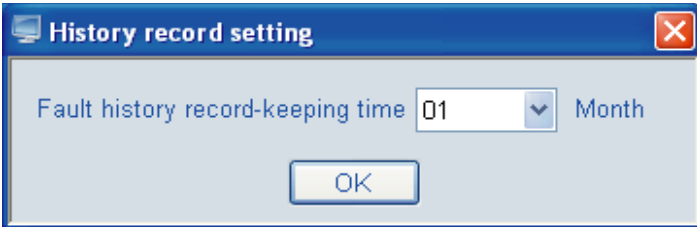

Fig.4-54
②Click “History set” , an interface as Fig. 4-54 displays — — —to modify or select the history error saving duration.